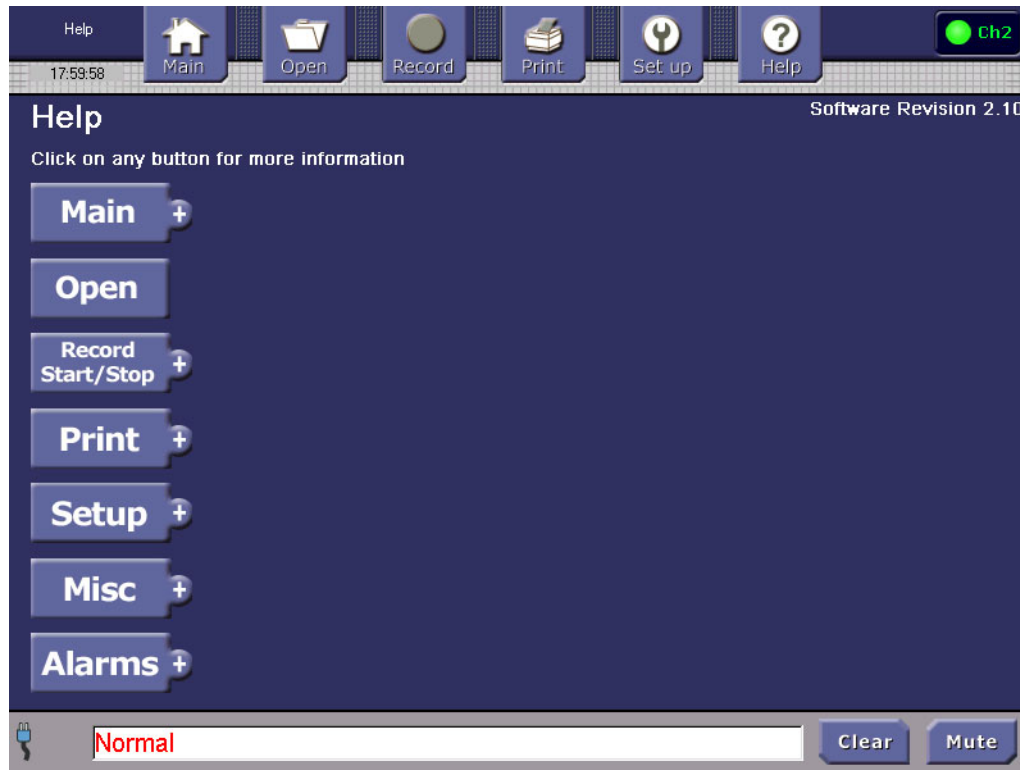

Figure 34. Help Index
1. Press the **Help** button. The Help Index and current software version is displayed, as shown in Figure 34.